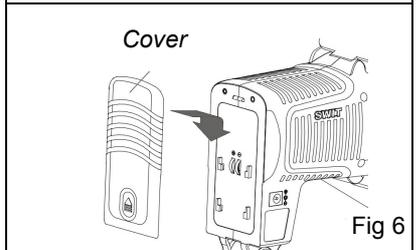
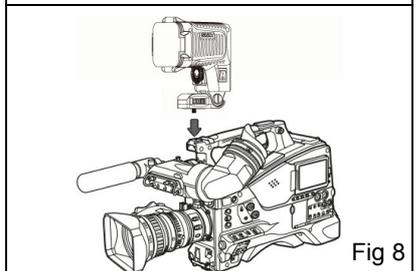

Fig 6
Fig 8
- ① Make sure the light is switched off (turn the switch to "O"). Plug the pole end of S-7104 into the DC-IN socket.
- ② Plug the D-tap end of S-7104 to the camera auxiliary power tap or the battery's D-tap output socket. See Fig 6.
- ③ For third-party DC cables, please make sure the DC connector is 5.5/2.1mm pole and input voltage should be 6-17V; and inner: positive, Outer: negative.
• By screw mount (Fig. 8)